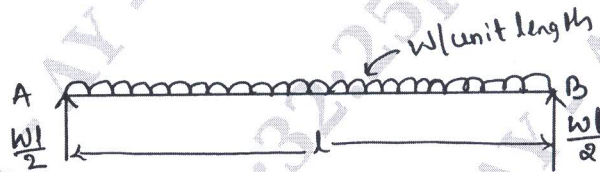

Fig.Q9(b)
- b. A simply supported beam of length 'L' carries uniformly distributed load 'W' per unit length over the entire span length as shown in Fig.Q9(b). Determine the strain energy stored by the beam. (08 Marks)